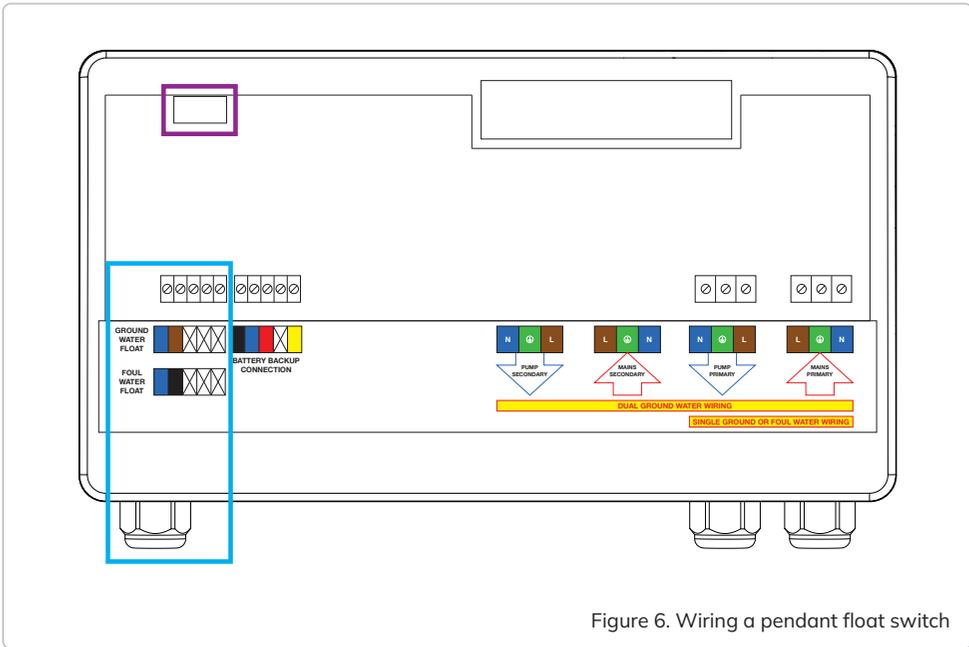

Figure 6. Wiring a pendant float switch
4. Connect the black and blue cables from the float switch cable to the terminal strip (figure 6).
See highlighted area at the top left of figure 6 (page 10) for terminal block location.